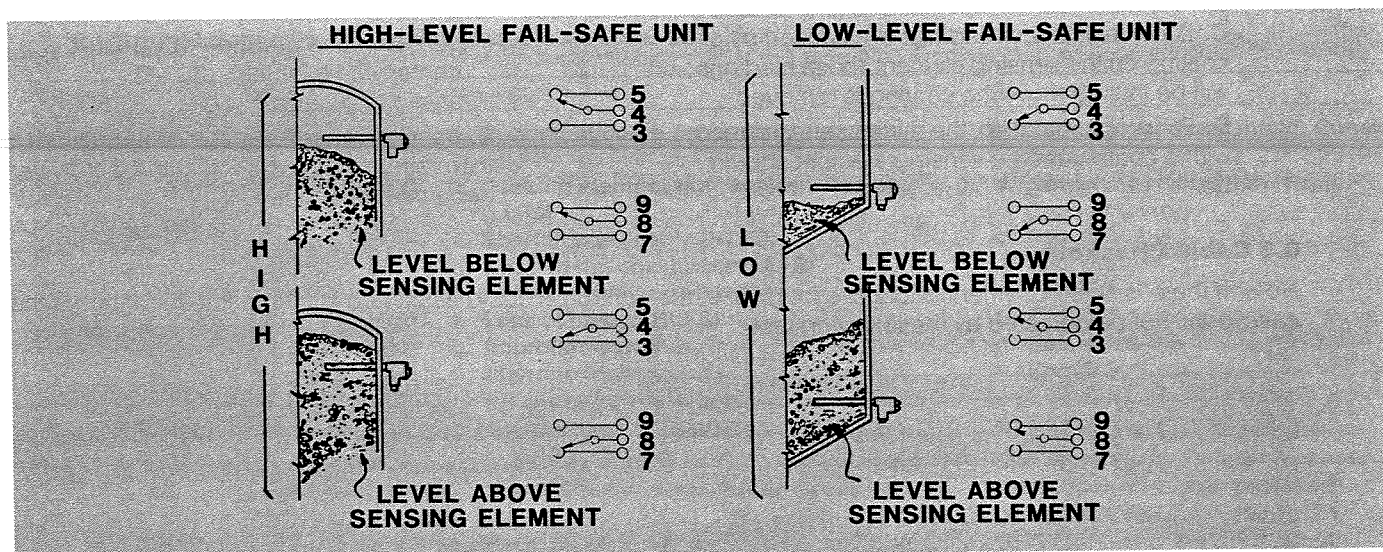

FIGURE 6-2
A. The relay circuit consists of double-pole double-throw relay contacts brought out to a terminal strip. When the relays are operating properly, two pair of contacts will be open with high or low level, and two pair closed with high or low level. See Figure 6-2.
D. Difficulty in calibration can often be traced to improper wiring of the relay terminals to an annunciator or other panel device. Check the wiring against the relay chart in Figure 6-2. *Be sure to use the diagram for the fail-safe in which the instrument is set.*